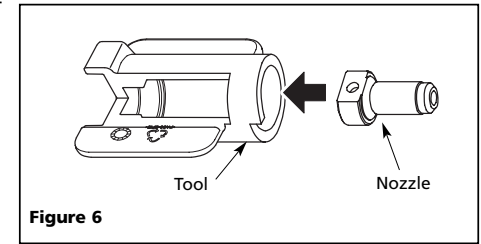

Figure 6
3. Clean nozzle as needed. See Figures 6 and 7. For proper alignment of nozzles, tighten until tool contacts tab on rotating arm, as shown in Figure 8.